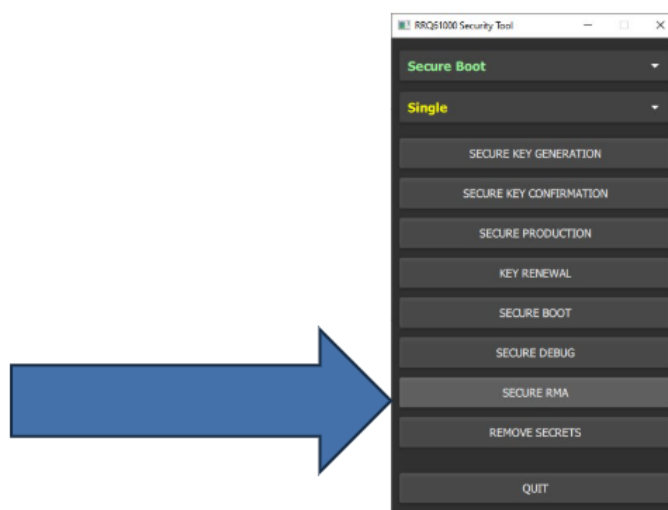

Figure 44. Secure RMA button
1. In the SBOOT tool, click **Secure RMA** (Figure 44).